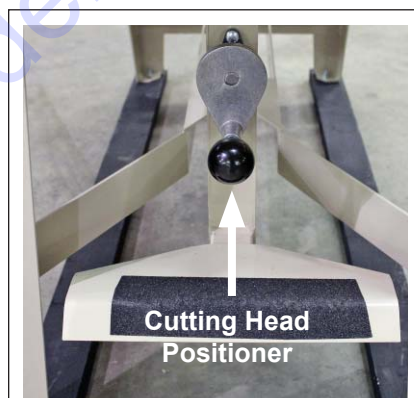

Figure 9
- When making a series of cuts at the same depth, set the cutting blade to the required depth by adjusting the cutting head positioner. The cutting head will stay at the depth selected. (Figure 9)